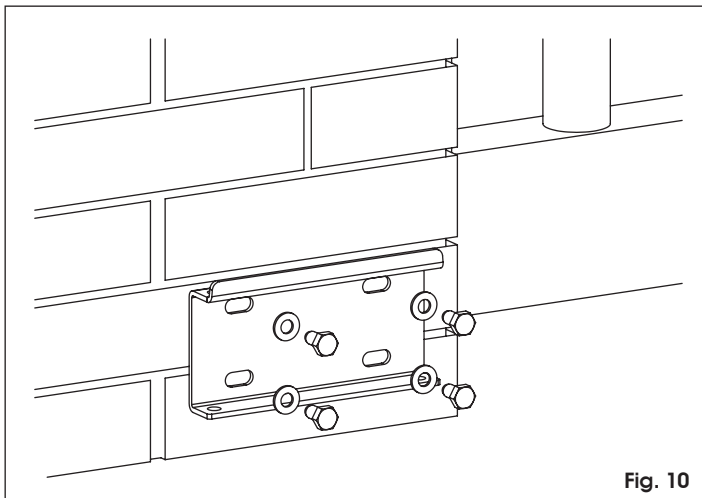

Fig. 10
3. Secure the rear bracket in the position you had established, using four M8 screws. As you secure the bracket, respect the lay-out in Fig. 10 and check, using a level, if the bracket is horizontal.